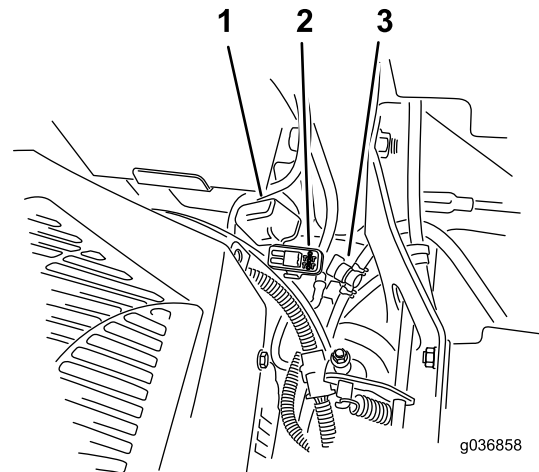

Figure 55
The fuses are located on the right console next to the seat (Figure 55).
2. Install a new fuse (Figure 55).